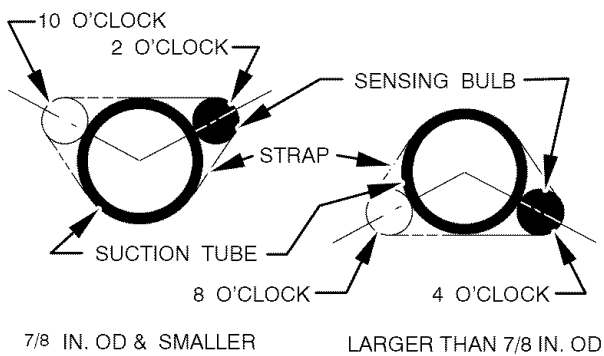

Fig. 4 – Position of Sensing Bulb
8. Attach TXV bulb to horizontal section of suction line using clamps provided. Insulate bulb with field-supplied insulation tape. See Fig. 4 for correct positioning of sensing bulb.
9. Reinstall TXV support clamp (removed in item 3).
10. Attach TXV bulb to vapor tube inside cabinet, in same location as original was when removed, using supplied bulb clamps (nylon or copper). See Fig. 4 for correct positioning of sensing bulb.